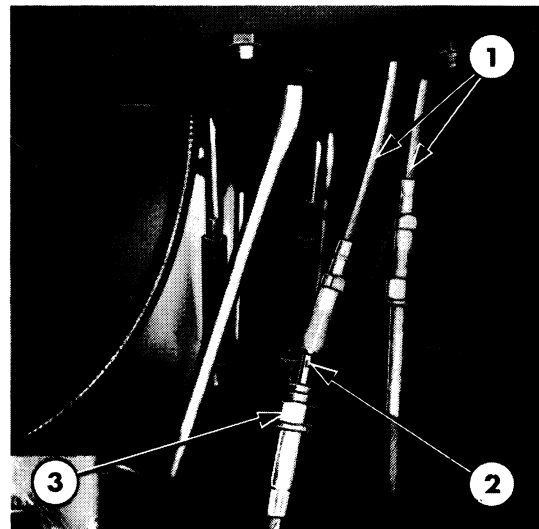

Figure 6
4. Turn the remote cylinder flow control knob assembly clockwise at the console, loosen the locknut on the cable and disconnect the cables, Figure 6.